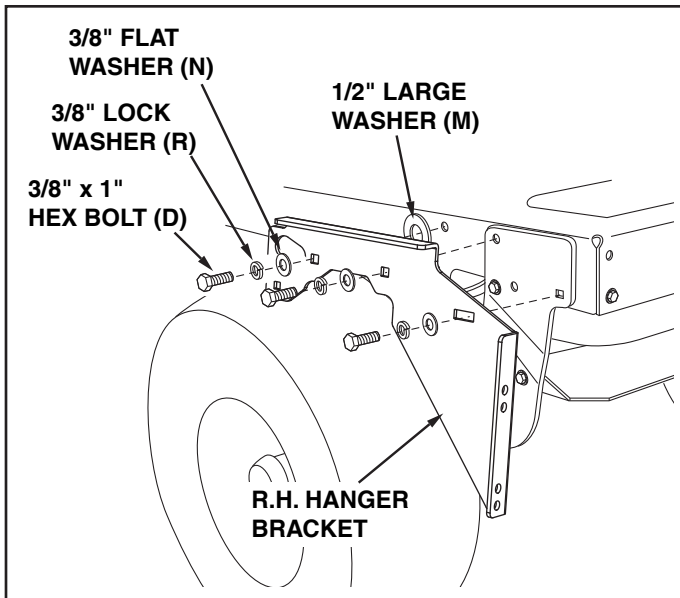

FIGURE 6
## STEP 2: (SEE FIGURE 6)
- Assemble the two angle lock bars together as shown in figure 6, so that all holes are aligned. Use one 3/8" x 1-1/4" carriage bolt (E) and one 3/8" nylock nut (L). Be sure to insert bolt from side indicated. **Do not tighten at this time.**